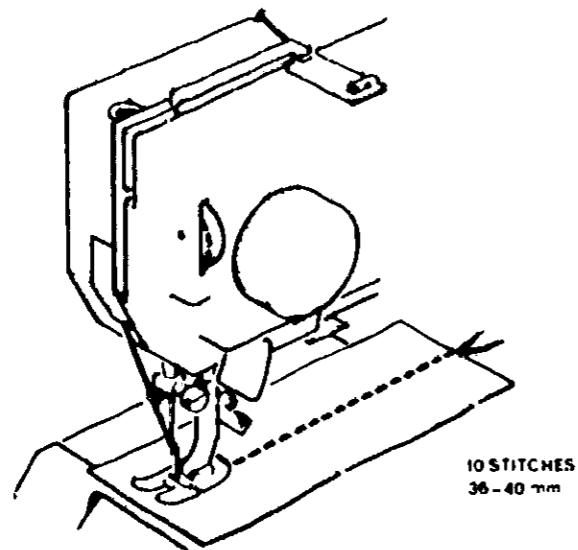

FIGURE 50
- Measure ten stitches in the middle of the seam: eleven holes (Figure 50). The measurement should be 1.44 - 1.60 inches (36.40 mm)